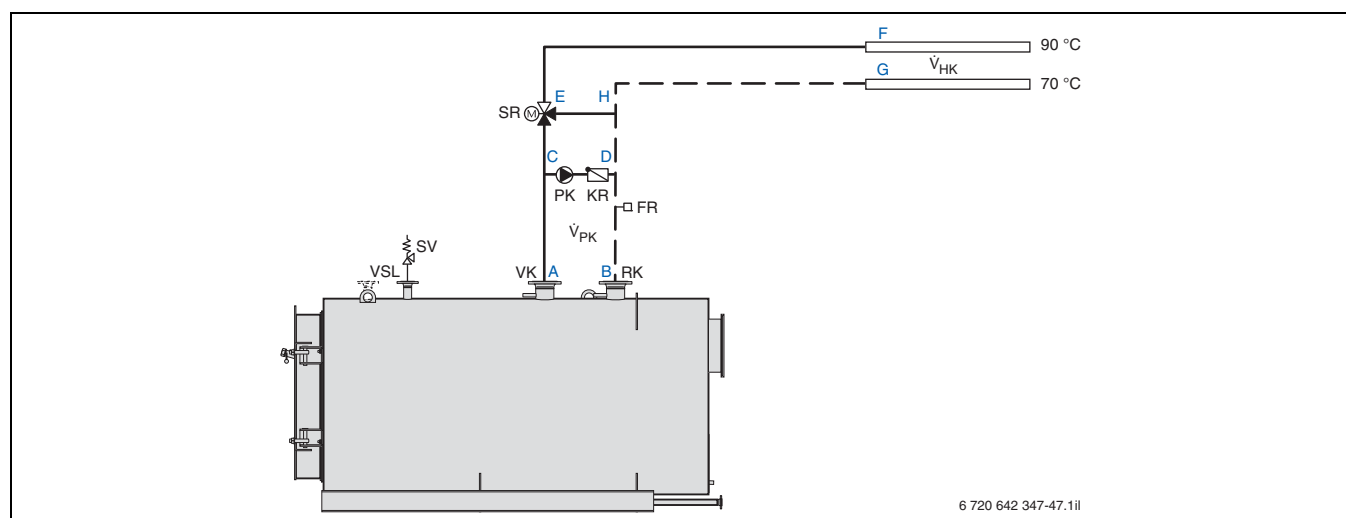

Fig. 35 Sample hydraulic circuit for a 1-boiler system with boiler circuit pump in the bypass
- All individual pressure loss levels in the boiler circuit (path: A–C–D–B, → Fig. 35).
- $\dot{V}_{PK} = 43000 \text{ l/h}$ (path: C–D, → Fig. 35)
(paths: C–F, D–G and E–H, → Fig. 35)
(paths: A–C and B–D, → Fig. 35)